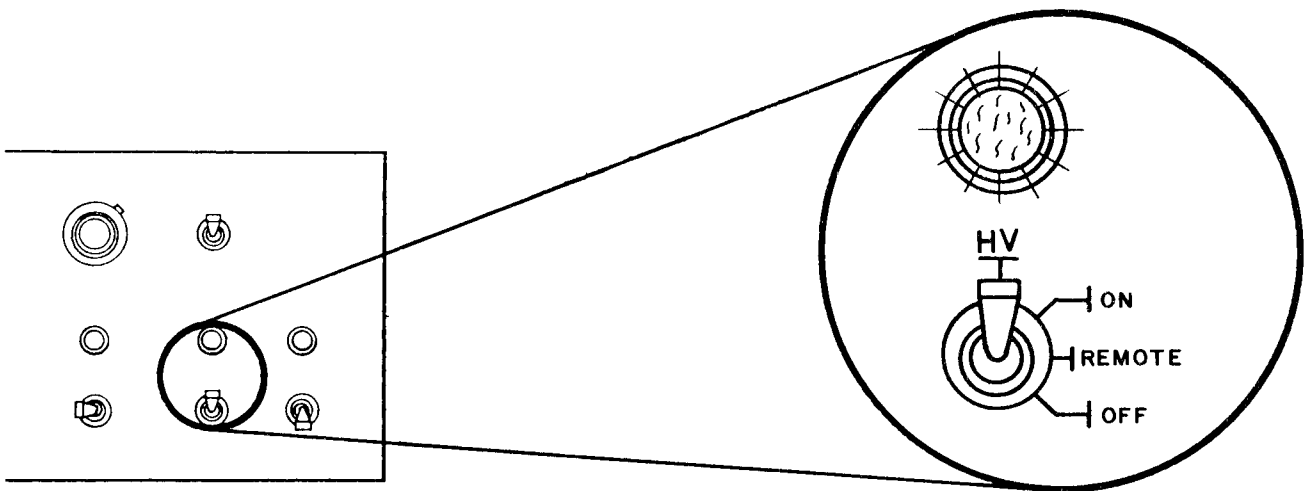

Figure 7. HV Switch in ON Position
g. Wait thirty seconds and then flip the HV switch to the ON position (see Figure 7).